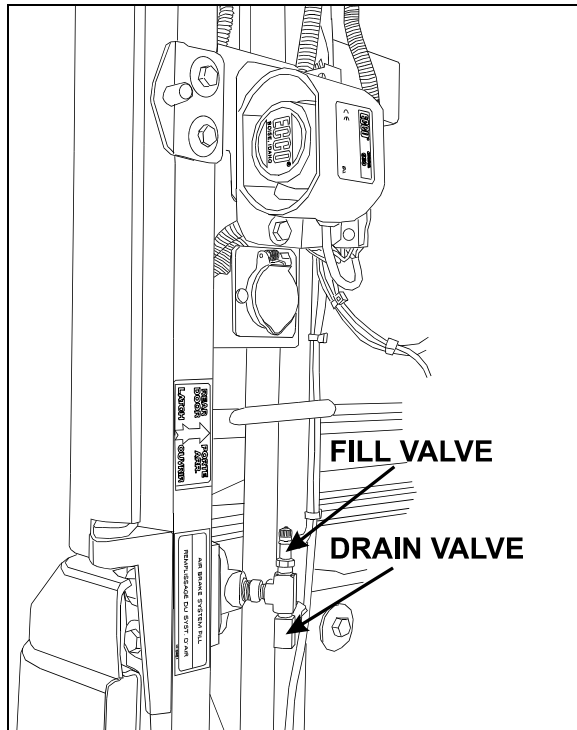

FIGURE 43: REAR VALVE LOCATION
A remote valve located in engine compartment and accessible through engine R.H. side door is used to **drain** the air dryer (Fig. 43).
**The rear valve** is located in engine compartment and accessible from engine R.H. side door (Fig. 43).